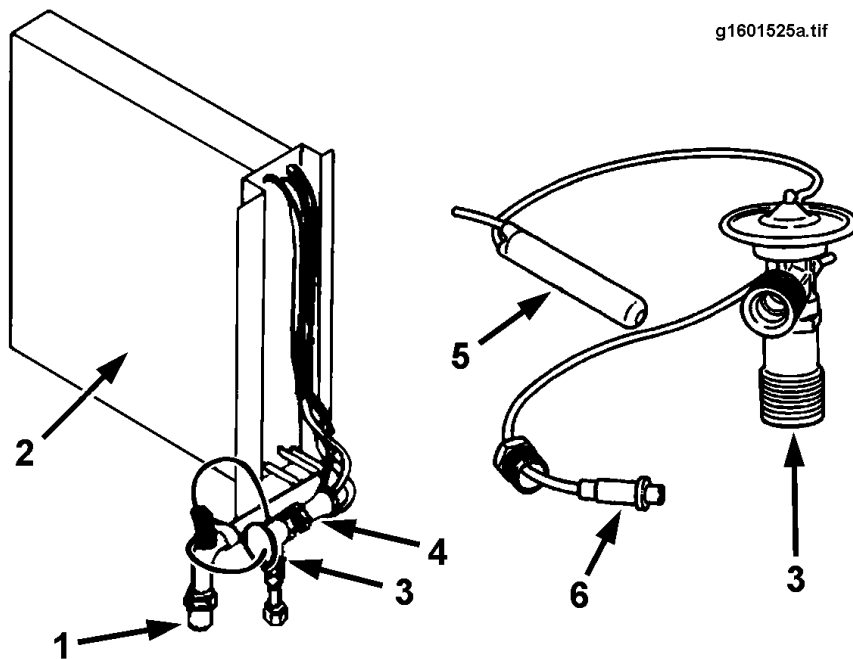

Figure 20 Evaporator Core and Expansion Valve
4. Working through the access hole, remove the insulating tape from the expansion valve and capillary tubes (Figure 20).
8. Using two wrenches, disconnect the expansion valve from the evaporator core inlet tube. Remove the expansion valve (Figure 20) and cap or plug the evaporator inlet.
4. Install a new O-ring, lubricate the threads with **MINERAL-BASED** refrigerant oil and connect the expansion valve equalizer to the fitting on the evaporator outlet tube (Figure 20). Using two wrenches, tighten to 33 to 35 lbf-ft (45 to 48 Nm).